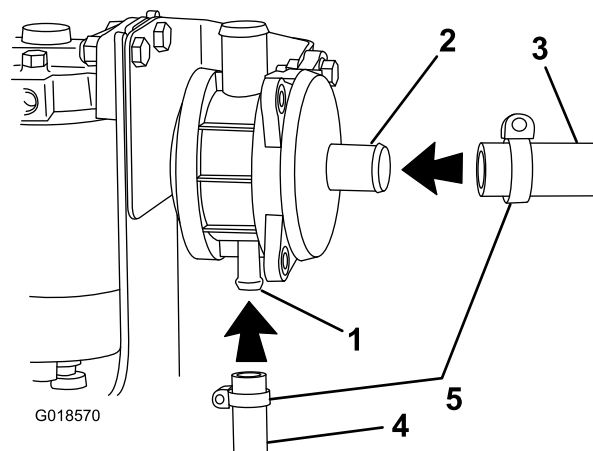

Figure 4
2. Attach the breather (larger diameter) hose to the fitting on the breather as shown in Figure 4.
1. Attach the oil-drain (smaller diameter) hose to the barbed coupler on the breather (Figure 4).